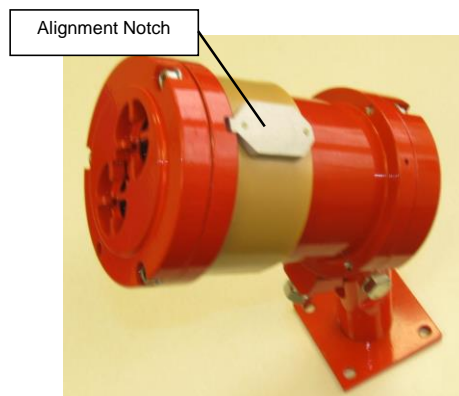

Figure 6-1: IPES IR/UV with Magnetic Switch Collar
2. If it is necessary to isolate the detector fire relay from the alarm system, apply the magnetic collar over the enclosure as shown in Figure 6-1. Placing the collar over the enclosure as shown allows the fire relay contacts to remain in the non-alarm state during testing.